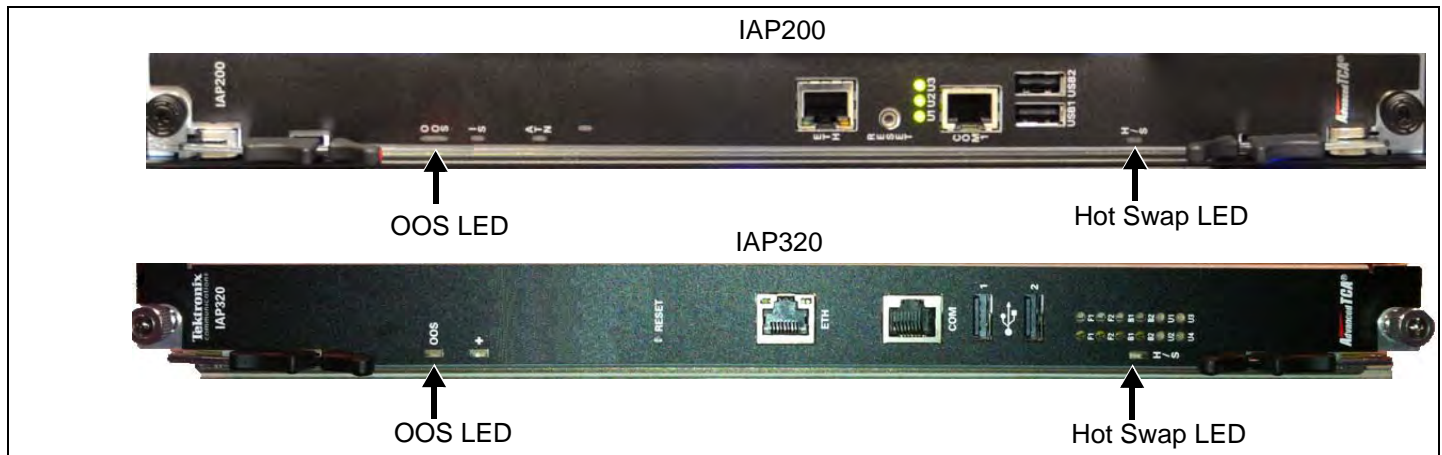

Figure 4.8 - IAP200 and IAP320
9. Wait approximately 10 minutes for the IAP200 or IAP320 to boot up. The OOS LED (Figure 4.8) will transition from RED (board booting) to AMBER (applications are starting) to OFF, indicating the probe is up.